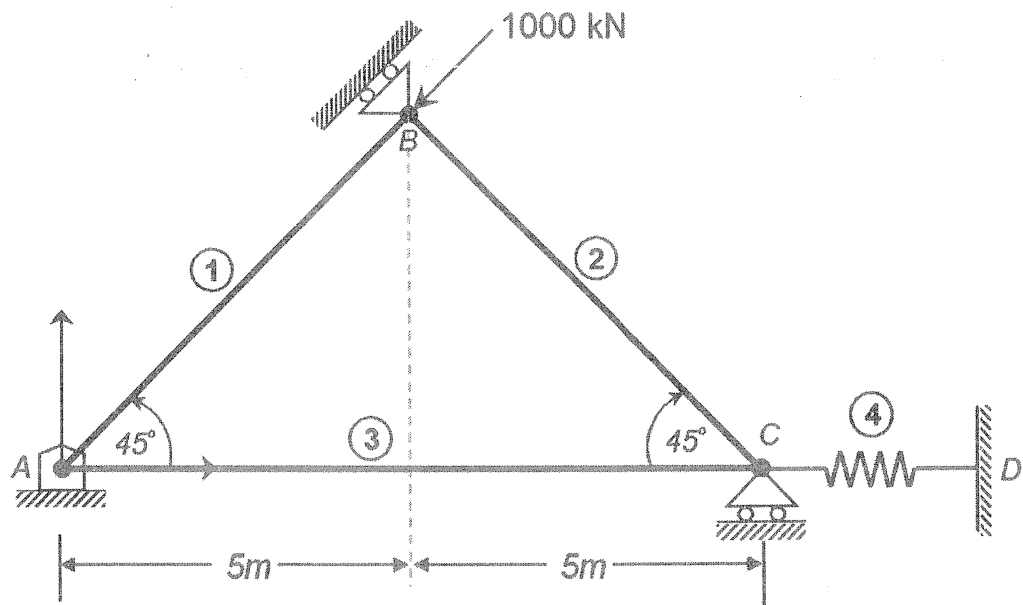

Fig. Q3
Q3. Pin-jointed 2D truss is pinned support at Node A and roller support at Nodes B and C as shown in Fig Q3. The Young's modulus $E = 210 \text{ GPa}$ for all three bar elements and cross-sectional area $A = 3\sqrt{2} \times 10^{-4} \text{ m}^2$ for element (1) and (2), $6 \times 10^{-4} \text{ m}^2$ for element (3). A spring connected to Nodes C and D with stiffness of $12.6 \times 10^3 \text{ kN/m}$. Truss system is subjected to a force 1000 kN at Node B.